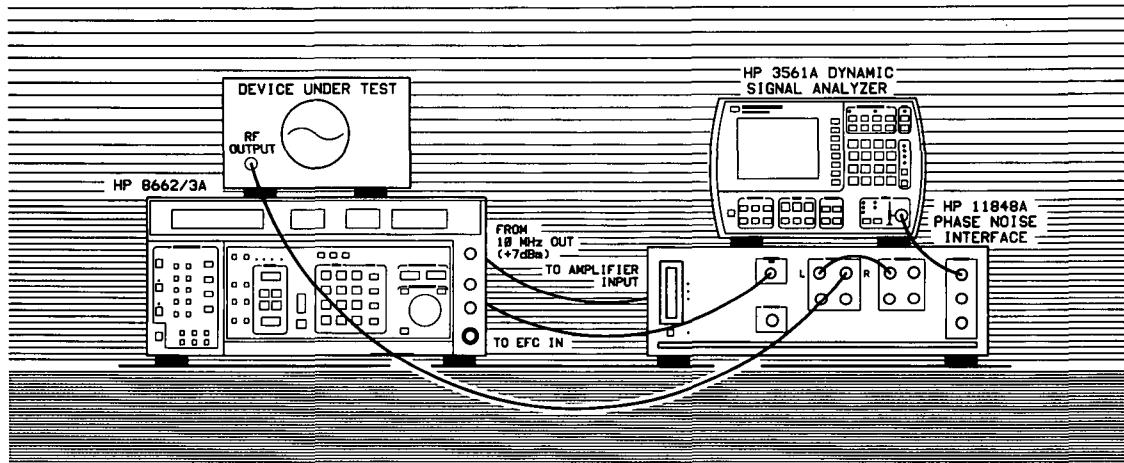

Figure 3-1. Setup Diagram for the 10 MHz Frequency Standard Measurement Example.
- 3. When the Connect Diagram appears on the HP 3048A's display, connect the signal paths as shown in Figure 3-1.** (Figure 3-1 differs from the Connect Diagram shown on the HP 3048A's display.) Table 3-2 provides setup considerations that will help you ensure that your measurement results will be valid.